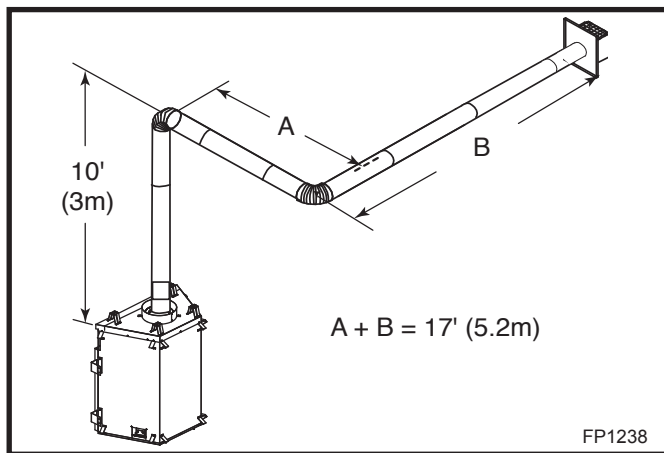

Fig. 18 Maximum vent run with elbows.
- The maximum number of 45° elbows permitted per side wall installation is two (2). These elbows can be installed in either the vertical or horizontal run. (Fig. 18)